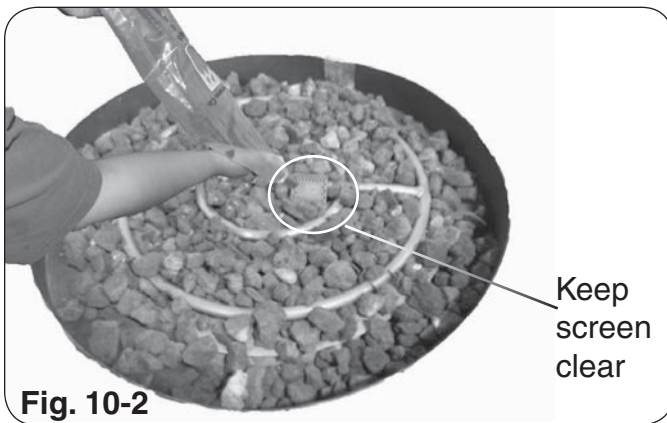

Fig. 10-2
1. Empty both bags of Lava Chunks into the burner pan (PARTS LIST, Item #8) and even it out without covering or blocking the ignitor screen (see Fig. 10-2).